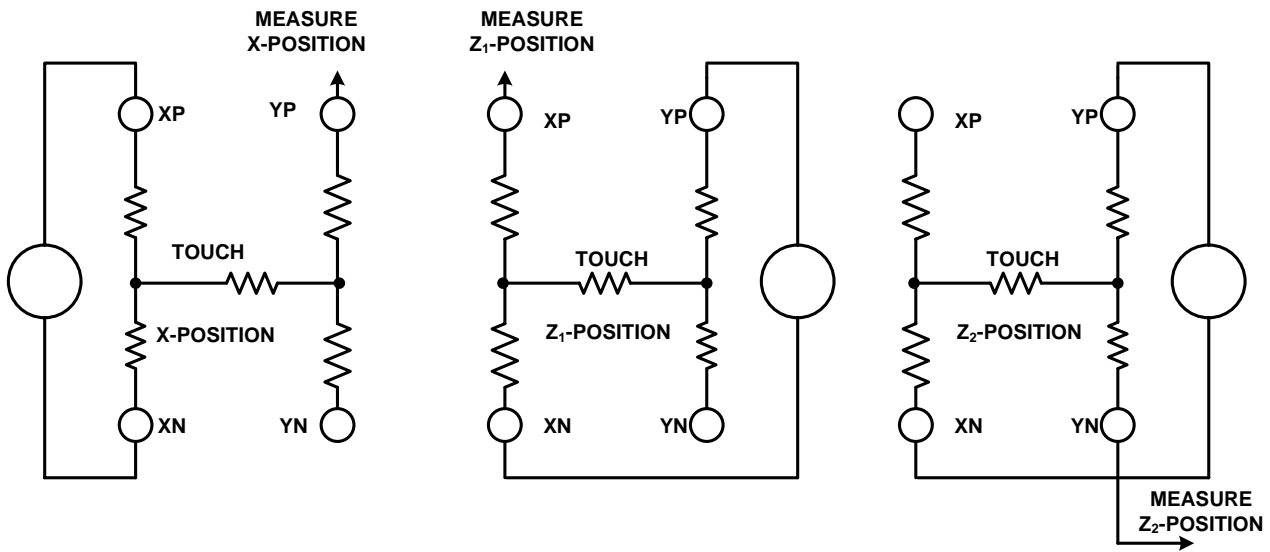

Figure 11. Pressure Measurement Block Diagrams
Measuring touch pressure can also be done with the XPT2046. To determine pen or finger touch, the pressure of the touch needs to be determined. Generally, it is not necessary to have very high performance for this test; therefore, the 8-bit resolution mode is recommended (however, calculations will be shown here in the 12-bit resolution mode). There are several different ways of performing this measurement. The XPT2046 supports two methods. The first method requires knowing the X-plate resistance, measurement of the X-Position, and two additional cross panel measurements (Z1 and Z2) of the touch screen, as shown in Figure 11. Using Equation (3) calculates the touch resistance: